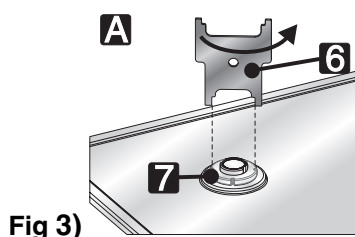

Fig 3)
- use the spanner 6 (Fig. 3) to open the bayonet fastenings of the burner fixing rings, applying leverage on the guides 7;